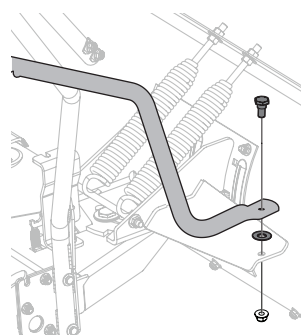

Figure 13
- Working from top-down, secure lower control tube (749-07634) to plow assembly (689-02100) pivot plate on right side directly behind plow with shoulder screw (738-0143), flat plastic washer (736-0414) and hex flange lock nut (712-04065) from hardware pack 689-02139. See Figure 13.
**NOTE:** Flat plastic washer (736-0414) should be installed on top side of bracket under lower control tube (749-07634). See Figure 13.